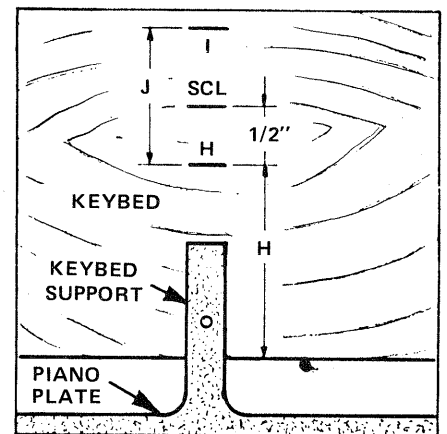

FIGURE 1-45 Measure 1/2" from mark H, mark and label the Keybed.
3. Measure out 1/2" from the marks labelled H, mark the Keybed, and label the marks "SCL" as shown in FIGURE 1-45. See the NOTE below, then proceed to Point 4.